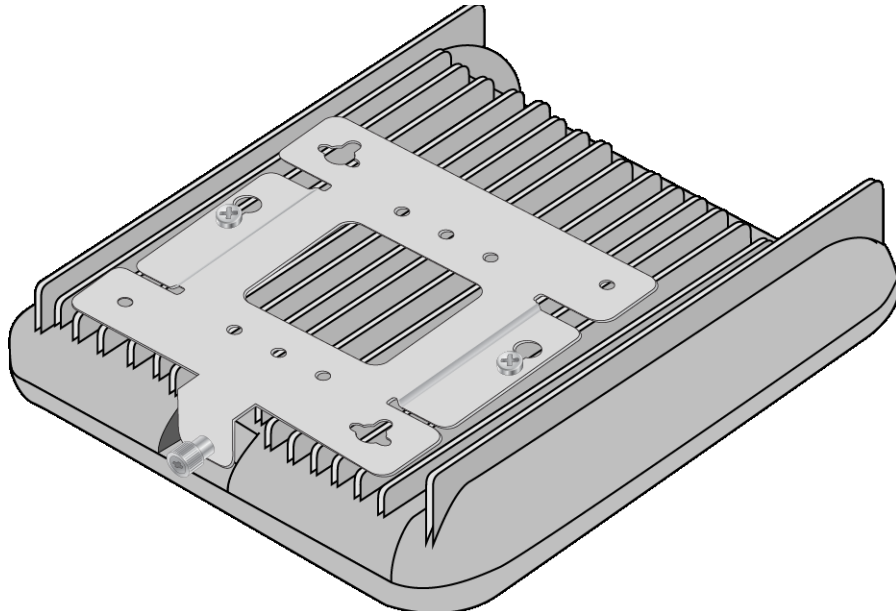

Figure 18. Attaching the Mounting Bracket on the Access Point
3. Slide the wall mounting bracket beneath the screws. Refer to Figure 18 on page 52.